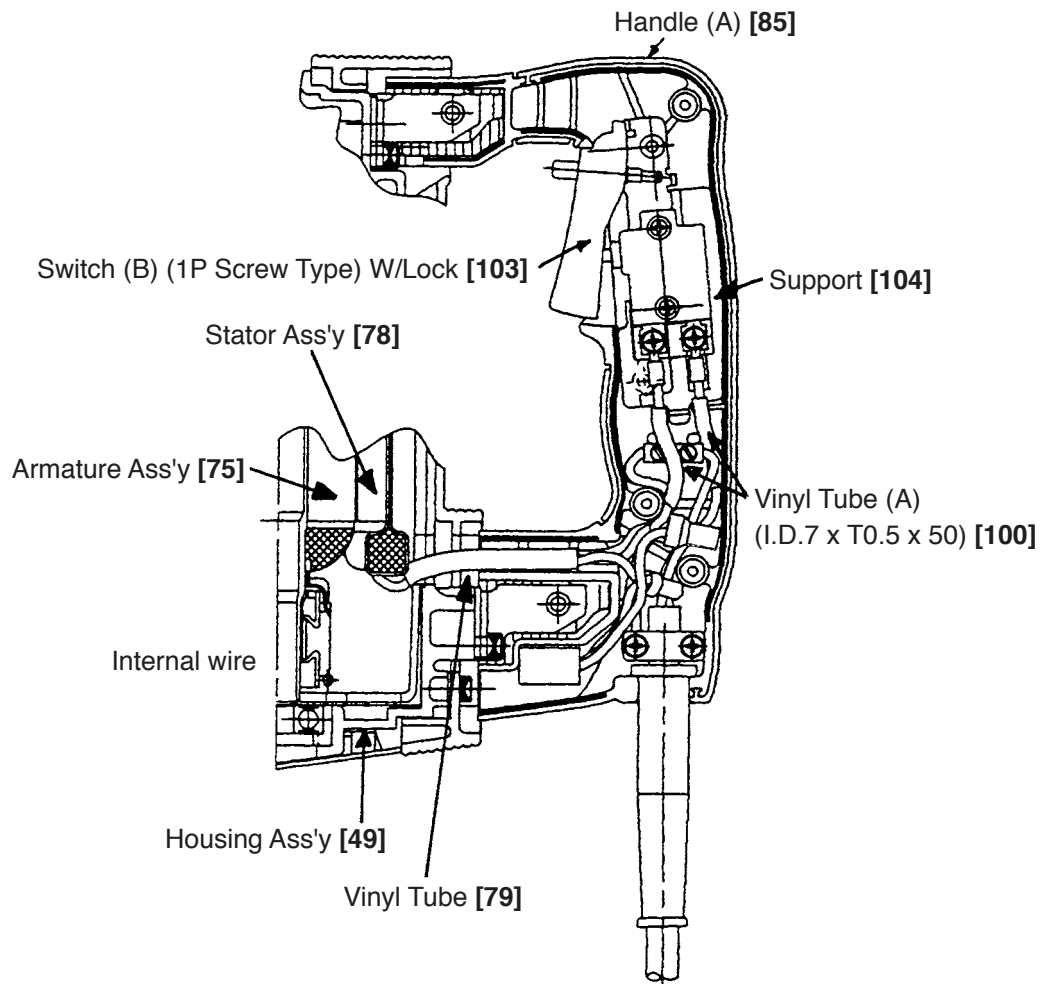

Fig. 10
(5) Safety precautions in wiring work: (See Fig. 10.)